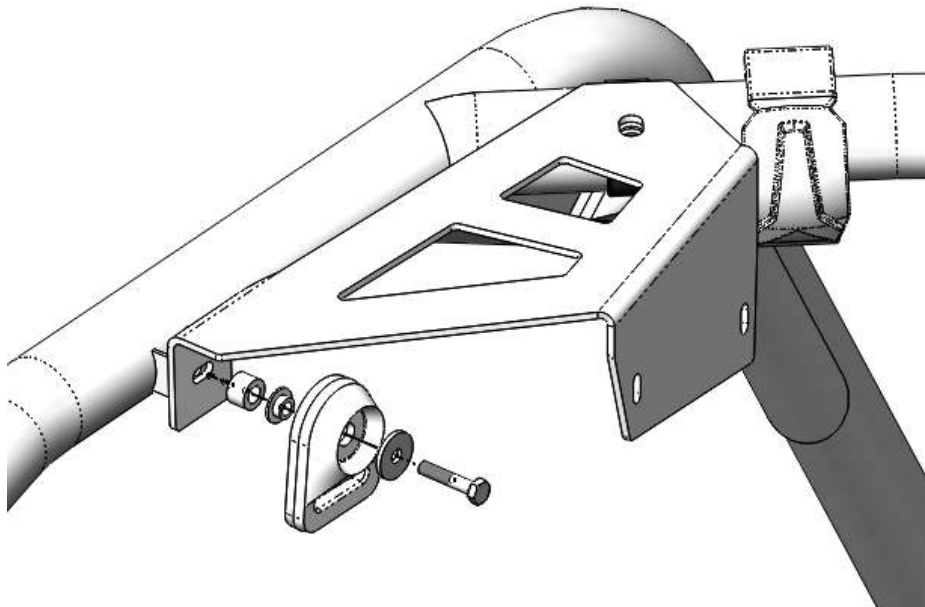

Figure 4: Mounting locations of Audio Mini brackets.
3. Using the supplied M6 x 1.0 x 30mm bolt and spacer, mount the bracket as shown in Figure 4 still utilizing the factory safety net mount. Loosely tighten the bolts to allow for adjustment of the *Audio Mini* placement. **Note: Driver side bracket shown. (Passenger side similar)**